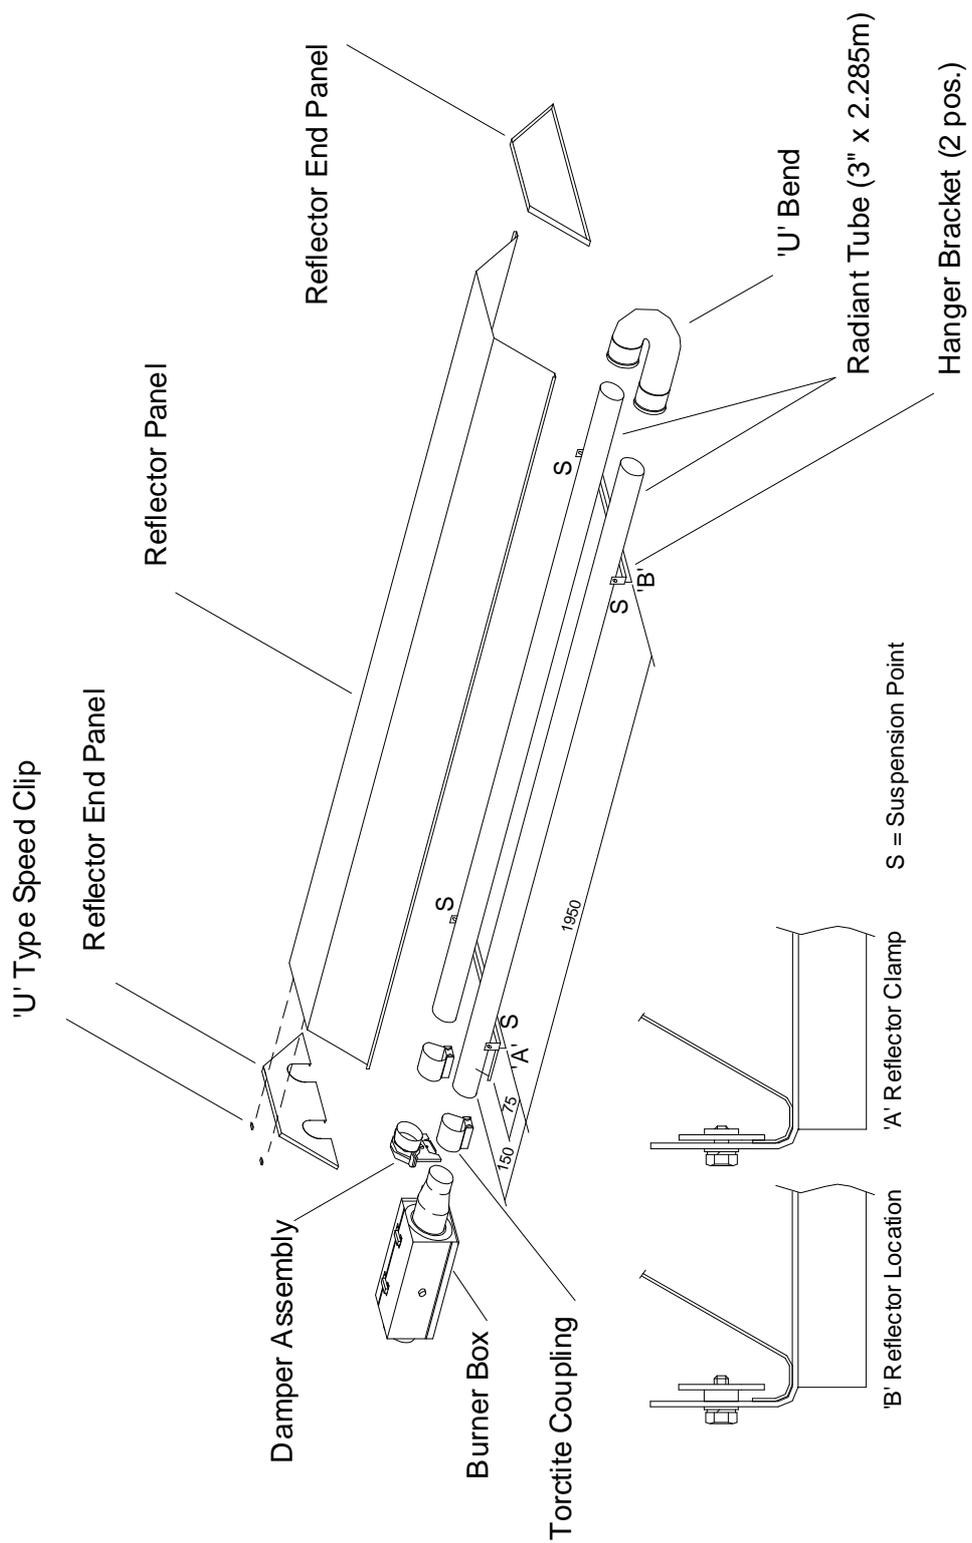

Fig. 16
- 4.1.2 Assemble the two Hanger Brackets to the Radiant Tubes using two 'U' bolts per bracket (from fastenings pack) and position along the Radiant Tubes as shown in Fig 16. Tighten the nuts sufficiently to retain the Hanger Brackets. Do not over tighten.
- 4.1.5 Place the Reflector Panel onto the Hanger Brackets, positioning the Reflector at the Control Box end between the bracket and the Torctite Coupling. Clamp the Reflector to the Hanger Brackets using the retainers and M6 setscrews and washers (fastenings Pack - qty 4) as shown in Fig 16.
- 4.1.6 Position the Reflector End Panel (notched) over the Radiant Tubes and into the end of the Reflector Panel with the End Panel flange flush with the end of the Reflector. Secure the Reflector End Panel to the Reflector Panel by use of 6 'U' type speed clips provided (fastenings pack); 2 clips per facet of Reflector Panel, as shown in Fig 16.
- 4.1.7 The appliance should now be raised and suspended from previously fixed chains or drop rods as detailed in Section 3.1, at suspension points indicated in Fig 16. Rope or webbing slings should be used when lifting from above. If using a forklift to position the appliance, ensure that the appliance is balanced on the forks prior to lifting.